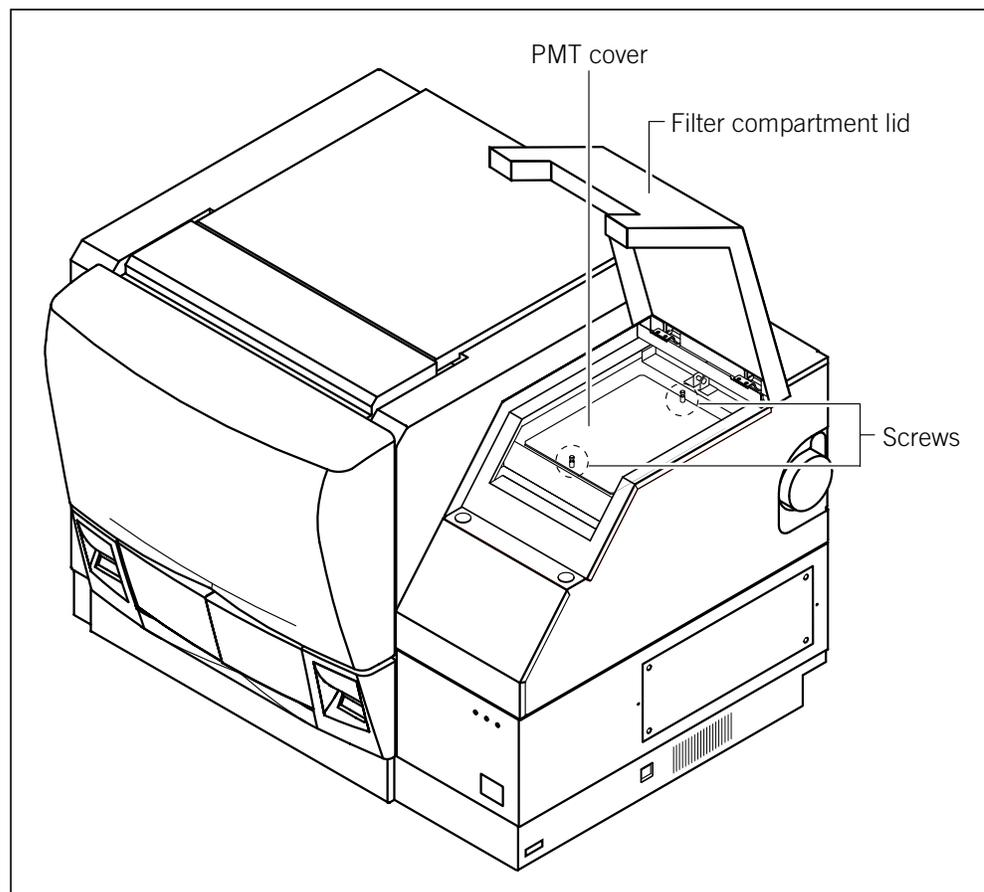

Figure 18-5. Removing or replacing the PMT cover.
2. Using a hex wrench, loosen the two captive screws on the PMT cover (figure 18-5) and lift the cover out of the compartment.
2. Position the PMT cover and tighten the two captive screws to secure the cover in place (figure 18-5)